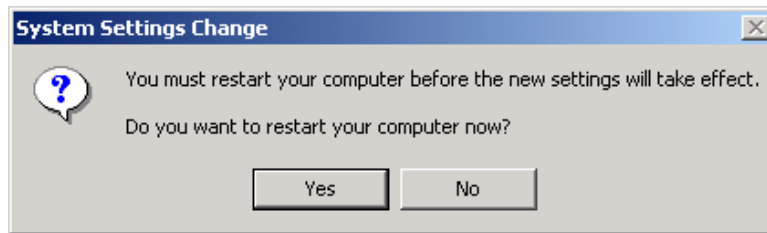

Figure 1-192. Reboot computer dialog
- n. The "System Settings Change" popup is displayed (Figure 1-192). Click on **Yes** to continue.